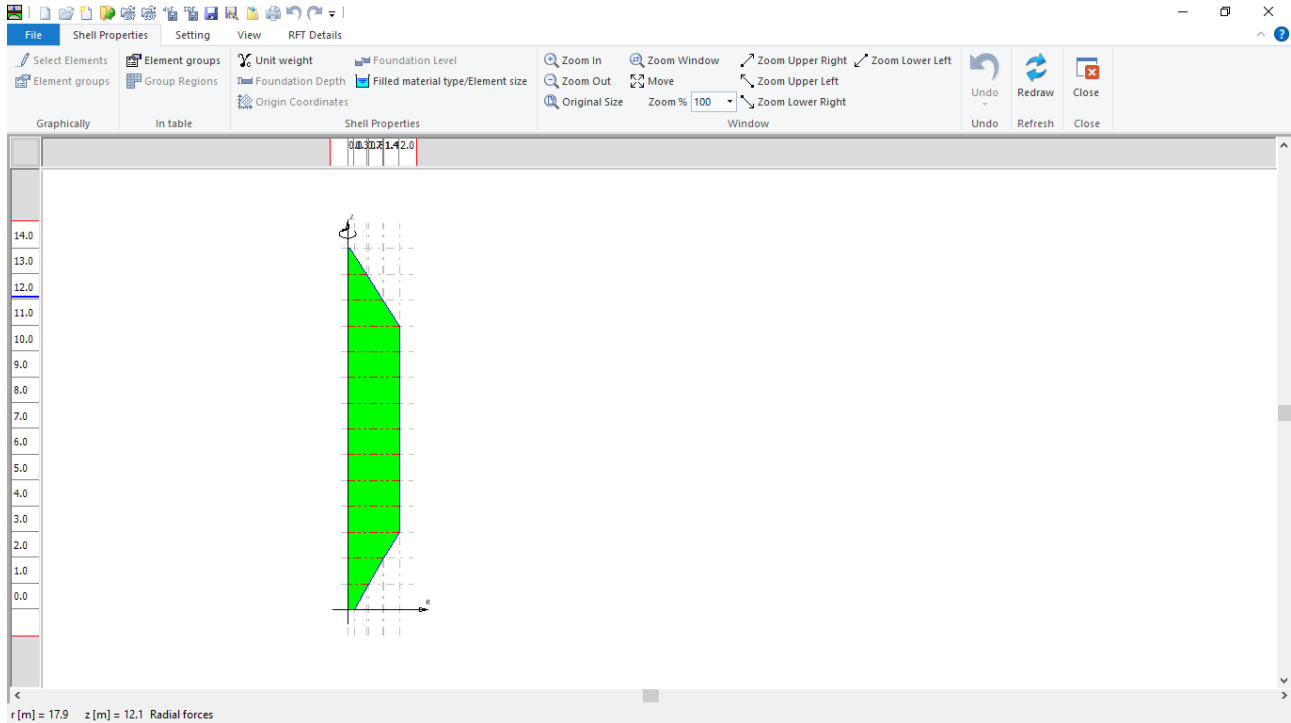
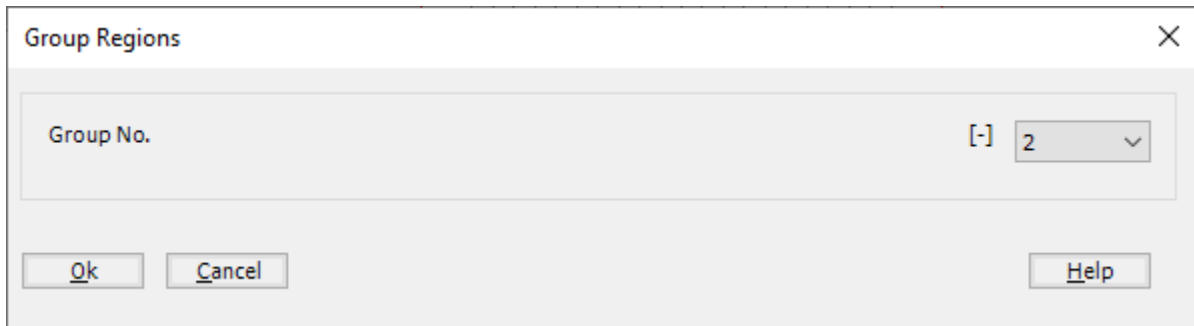
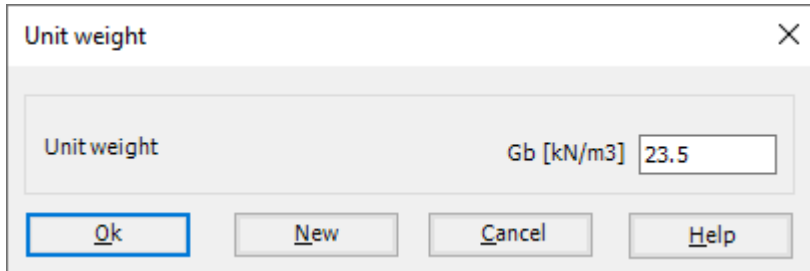

Figure 13.10 "Shell Properties" Window
Figure 13.13 "Group Regions" dialog box
Figure 13.14 "Unit weight" dialog box
To define the silo properties, choose "Shell Properties" command from "Data" Tab. The following window in Figure 13.10 appears with default shell properties. The data of shell properties for the current example, which are required to be defined, are element groups, group regions, unit weight of the silo material, filled material properties and element size.
- Choose "Select Elements" command from "Graphically" menu in the window of Figure 13.10
- Choose "Elements Groups" command from "Graphically" menu in the window of Figure 13.10, "Group Regions" dialog box Figure 13.13 appears
To enter the unit weight of the silo material, choose "Unit weight" command from "Shell Properties" menu in Figure 13.10. The following dialog box in Figure 13.14 with a default unit weight of 25 [kN/m³] appears, type 23.5 in the "Unit weight" edit box, then click "OK" button.
- Choose "Filled material type/Element size" command from "Shell Properties" menu in Figure 13.10.